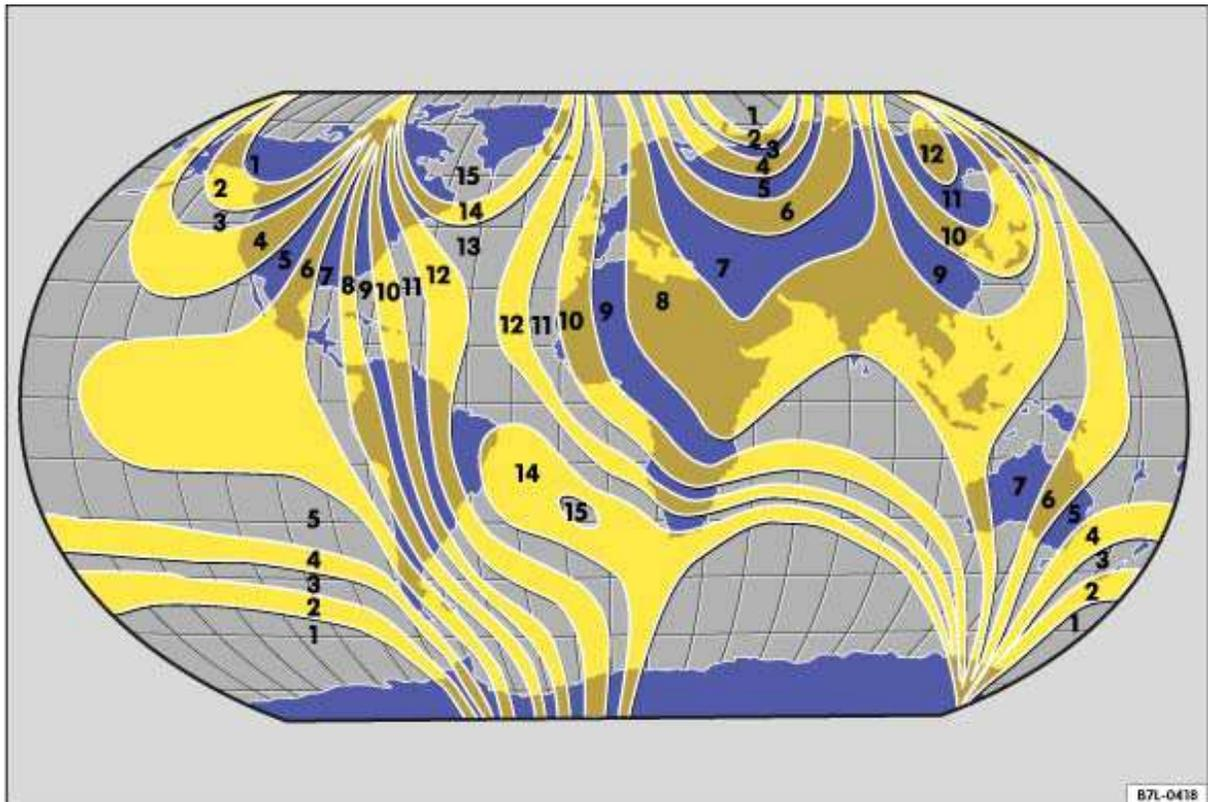

Fig. 13 Compass zones.
- Select the compass zone according to the current location ⇒ fig. 13.